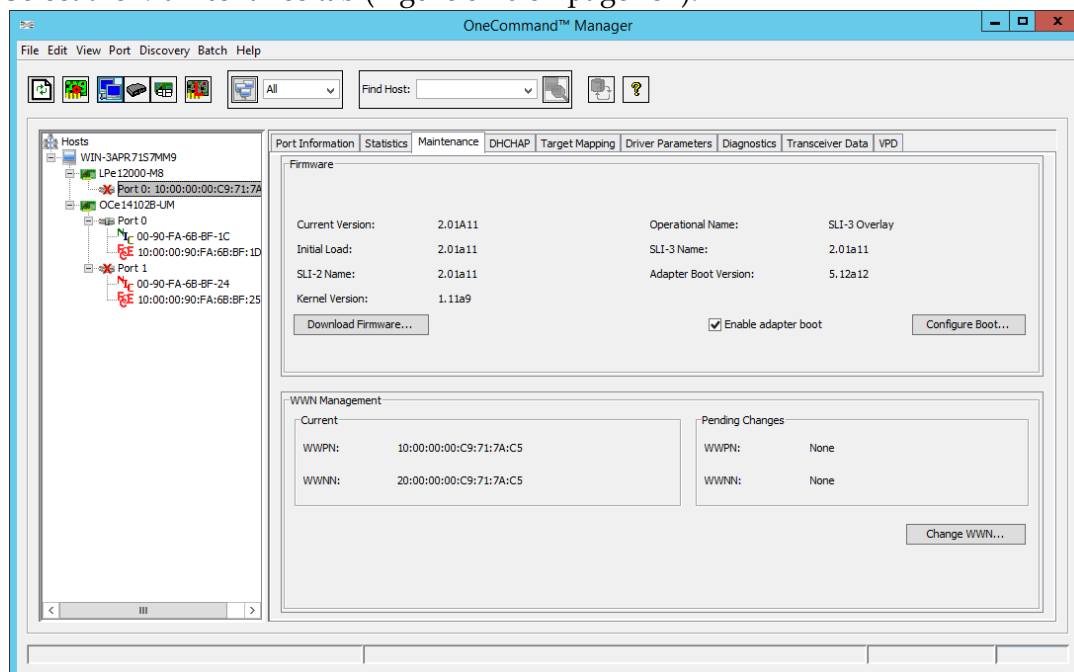

Figure 8-16 FC Maintenance Tab
Use the Maintenance tab (Figure 8-16 on page 137) to view firmware information and update adapter firmware. You can also configure boot from SAN and change WWPN and WWNN information for the selected adapter port. (Not available in read-only mode.)
3. Select the **Maintenance** tab (Figure 8-16 on page 137).